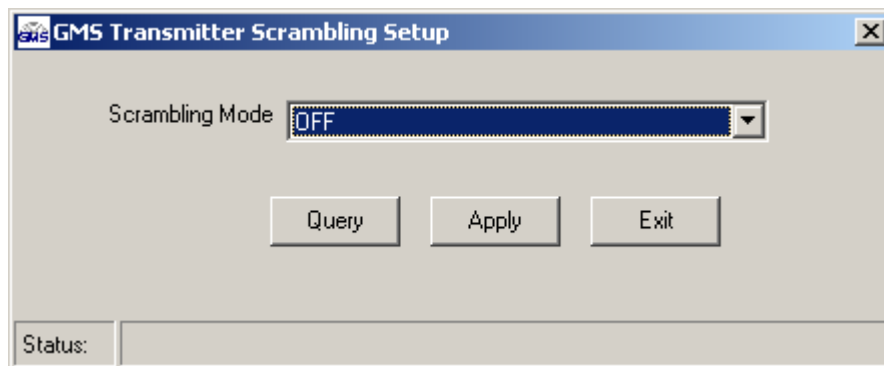

Figure 4A -Scrambling Mode Setup
- **Scrambling Mode (Option)** – This pull down menu displays the following (see Figure 4A & 4B):